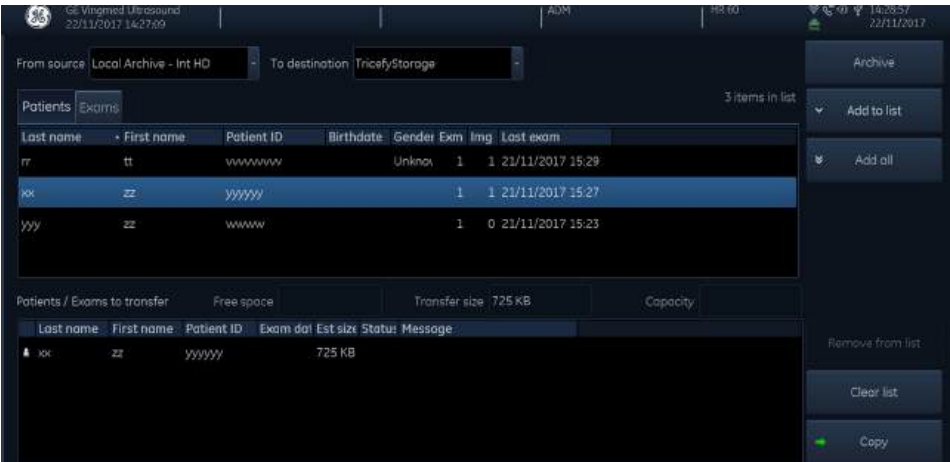

Figure 3-78. The Transfer screen
1. The *Transfer screen* is displayed (see Figure 3-78).
1. Press **Copy** (see Figure 3-78). The exam data is sent to the Tricefy website (https://tricefy4.com/users/sign_in).